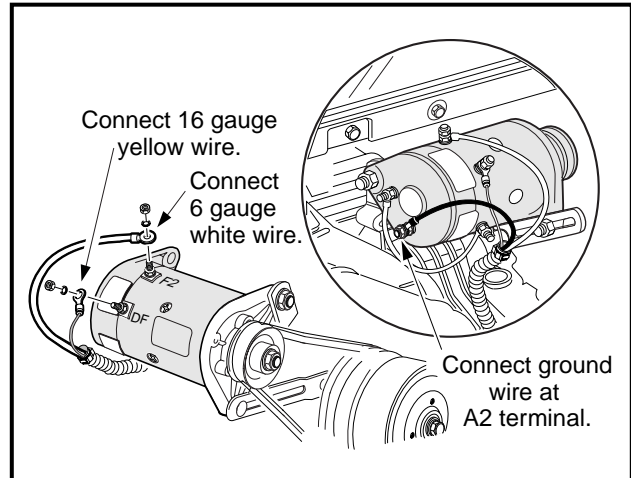

Figure 16-95 Starter/Generator
24. Connect the 6 gauge white wire to the F2 post, the 6 gauge black ground wire to the A2 post and tighten to 48 in-lb (5.4 N·m). Connect the 16 gauge yellow wire to the DF post on the starter/generator and tighten to 30 in-lb (3.4 N·m) **(Figure 16-95, Page 16-39)**.